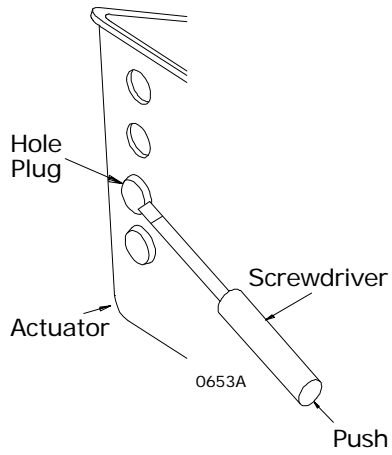
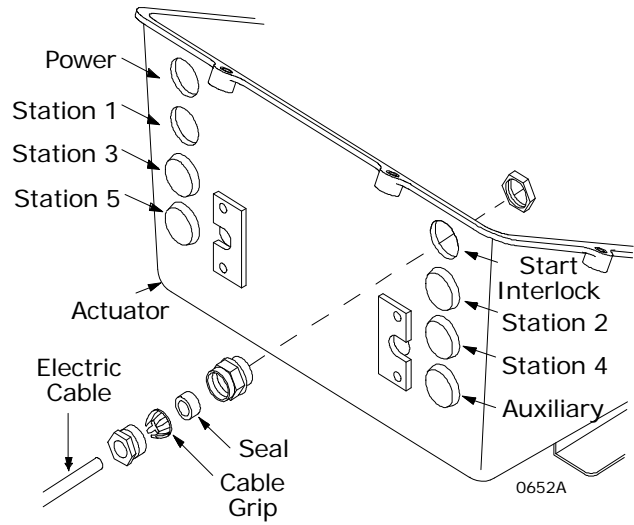
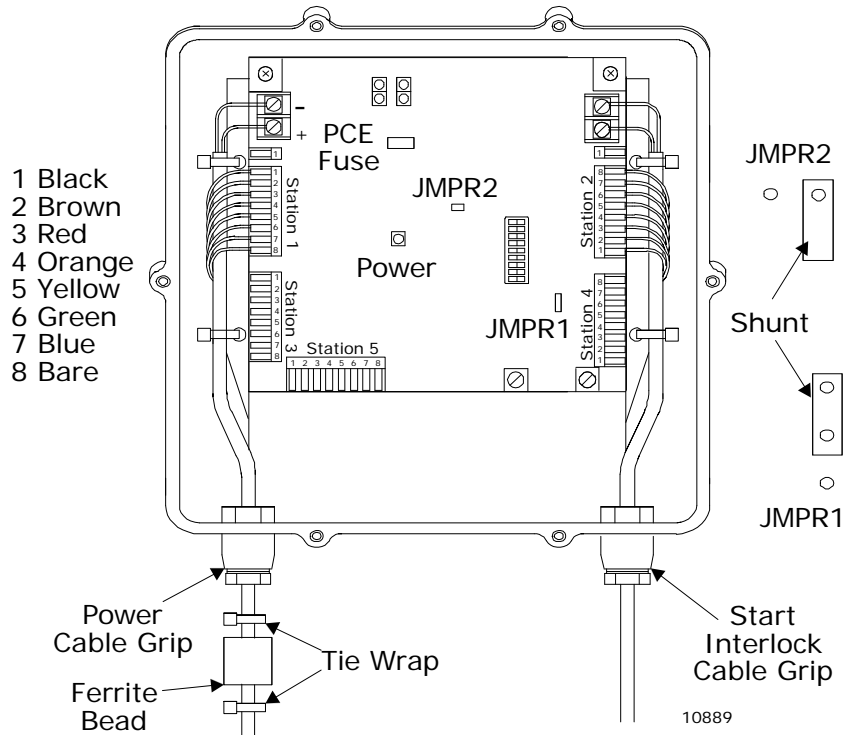
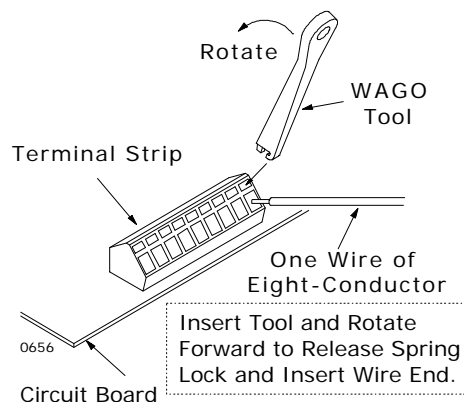

Figure 8
Figure 9
Figure 10
Figure 12
Secure the Actuator using 3" (6,4mm) fasteners. When the Actuator cover is removed, connect the wrist strap to your person and the ground connector to the Actuator frame. Install the 12 volt power cable grip and the start interlock grip in the top frame holes as shown in Figure 9. When not working on the Actuator keep the cover in place to eliminate metal chips, dust, or dirt from shorting circuits.
Remove the Actuator cover and connect your anti-static wrist strap to the Actuator frame and your wrist. Remove the cable hole plugs as required. (See Figure 8) Install the watertight cable grip that is included with the Control Head. Station No. 1 will connect to 'STATION 1' as indicated in Figure 9. Strip the PVC cover and shielding back approximately 2" (50,8mm). The wire leads can be staggered for length to match the Station 1 terminal strip. Strip the wire 3/8" (9.5mm) on each lead. It is also recommended that the wire be LIGHTLY tinned. Connect colors as indicated in Figure 10. A WAGO Tool, No. 236-332, is included with each Actuator. It is taped to the relay on the circuit board. It is used to depress the spring lock for the individual wire connection to the terminal strip. (See Figure 12) The shielding drain wire (bare wire) must be connected to terminal 8 on the terminal strip. Feed through a little slack cable and tighten the cable grip on the Eight-Conductor cable. The other stations Eight-Conductor cables are brought in the same way and are
connected to the appropriate terminal. (See Figure 9) Secure the cable to the frame using tie wraps provided.
- D) Check that the push-pull cable jam nut in the Actuator is tight. (See Figure 12, Detail I) If this is not done the Hex Nut can back off the push-pull cable threaded end and effectively change the cable length. Shift and throttle cables must have jam nuts tightened.